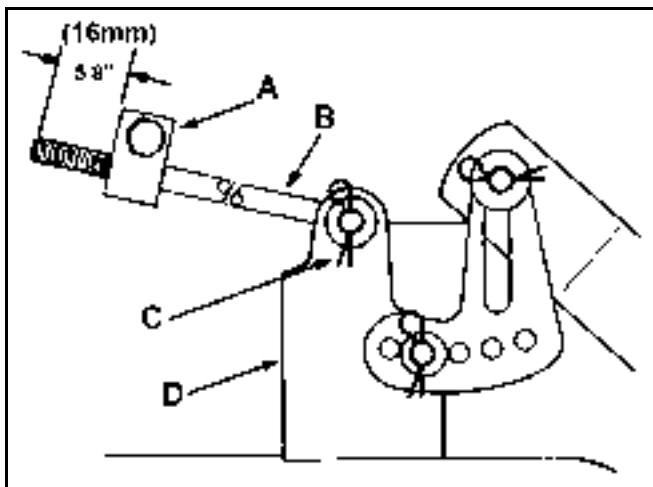

Figure 224
5. Measure the length of the rod extending out the front of the adjusting block on the sides of the chassis (Figure 224). If the rod length is not 5/8" (16mm), remove the hairpin cotter and washer from the end of the rod (Figure 224), and turn the rod until the 5/8" (16mm) dimension is obtained. Then install the end of the rod into the hole in the mower mount and secure in place with washer and hairpin cotter. Repeat this procedure on the opposite side of the mower.